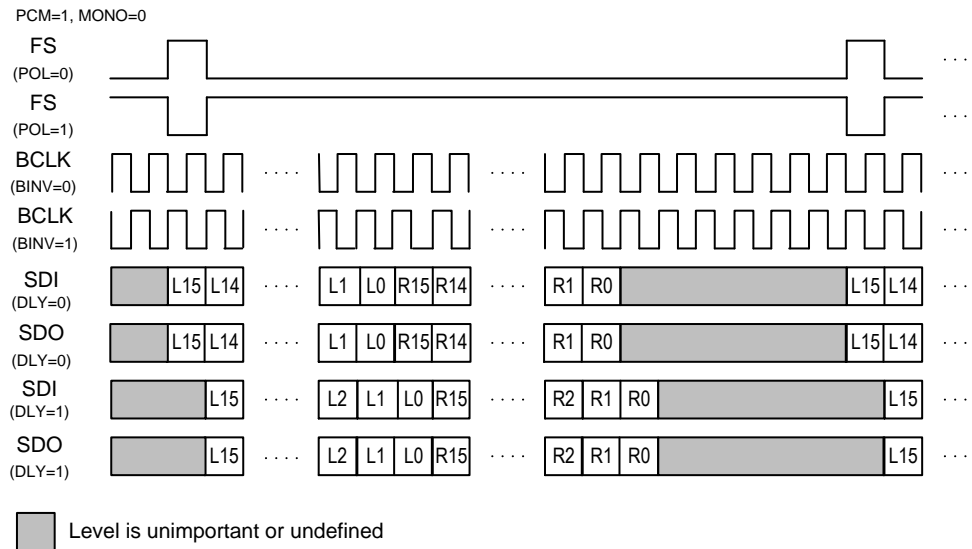

Figure 37 PCM Mode Dual-channel Data Transfer
The PCM Mode is a common interface protocol compatible with standard DSP devices for transferring PCM data. A frame sync signal (FS) is used to indicate the audio sample rate and serial data is transferred using a left-justified format. The FS signal is a single BCLK period wide and the MSB of left channel serial data may be configured to be transferred in the first or second cycle following the FS transition. When transferring two channels, the left channel data is first transferred followed by the right channel data. When transferring two channels, BCLK must have a frequency of at least 32xLRCLK for 16-bit signed audio data or at least 16xLRCLK for companded audio data. When transferring a single channel, BCLK must have a frequency of at least 16xLRCLK for 16-bit signed audio data or at least 8xLRCLK for companded audio data. Figure 37 shows an example 2-channel 16-bit PCM mode transfer with different configuration parameters.